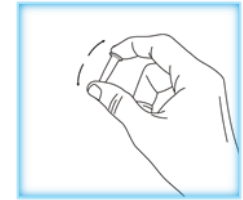

Figure 3
- Firmly close sample vial cap and shake (Figure 3).